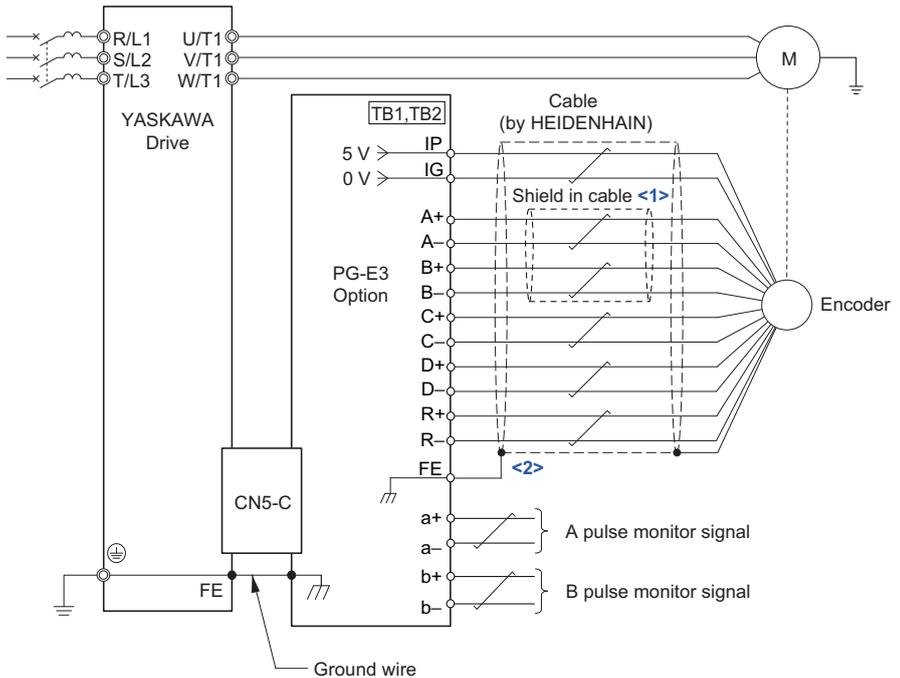

Figure 7 PG-E3 Option and PG Encoder Connection Diagram
5. Wire the motor PG encoder to the terminal block on the option using a HEIDENHAIN 17-pin cable. Refer to Figure 7 for wiring instructions. Limit the length of all motor output power cables to less than 10 m. Refer to Option Terminal Functions on page 19 for a detailed description of the option board terminal functions.